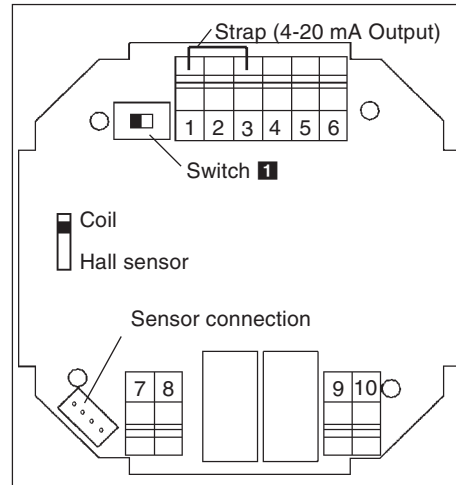
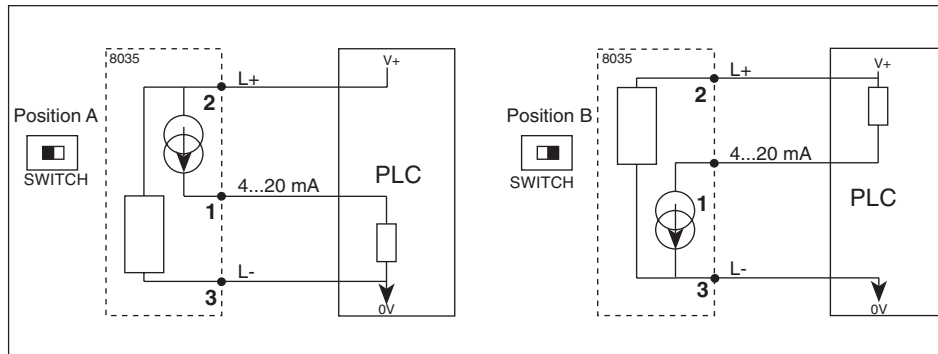

Fig. 3.6 Pin assignment SE35 with relays
Fig. 3.7 SE35 with relays, 4-20 mA output connection to a PLC
Ensure the electrical wiring via 2 cable glands. Remove cover, pull cable through PG 13.5 and wire according to following pin assignment (fig. 3.6):
**PLC-connection:** Depending on the PLC-version, set the switch **1** on the circuit board to position A or B (fig. 3.6 and fig. 3.7).
**4-20 mA Output:** If the 4-20 mA current output is used, remove the strap (1-3) (see fig. 3.6).
**Warning:** If the current output 4...20 mA is not used: set the switch **1** in position A (fig. 3.7) and the strap between 1-3 (fig. 3.6).
**Warning:** If the current output 4...20 mA is not used: set the switch **I** in position A (fig. 3.7) and the strap between 1-3 (fig. 3.6).